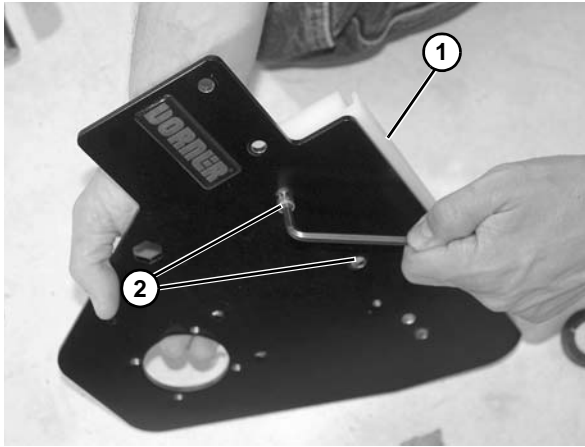

Figure 62
16. Check idler terminal assembly (**Figure 62, item 1**) for wear. If worn, remove two low head cap screws (**Figure 62, item 2**) and replace.